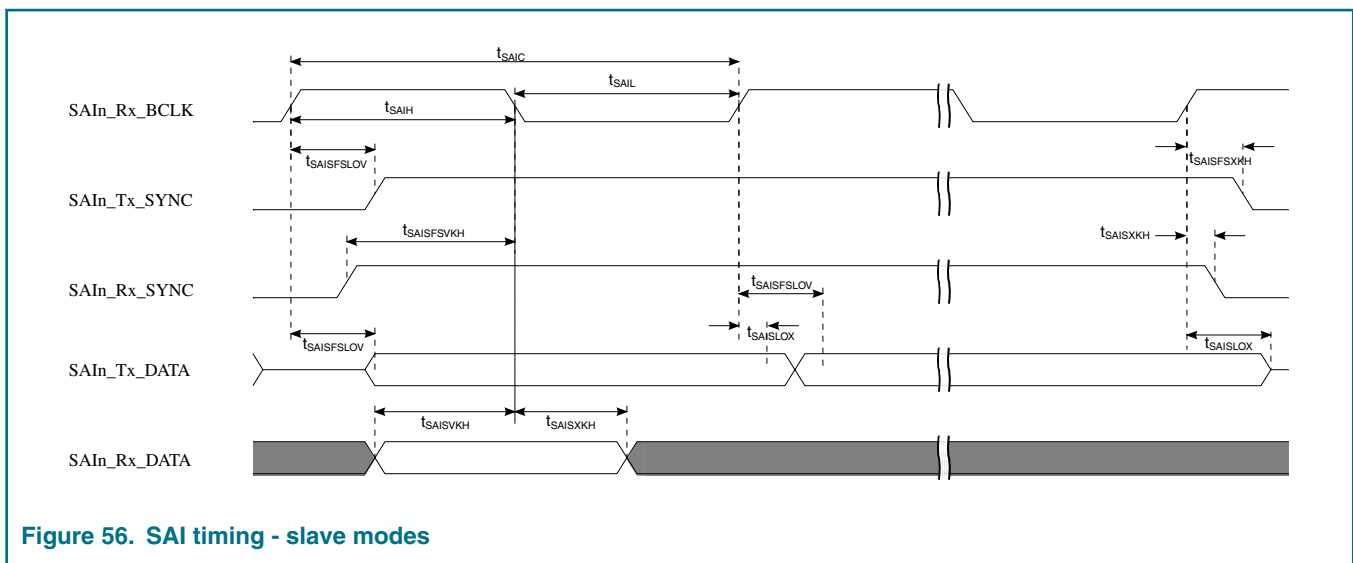

Figure 56. SAI timing - slave modes
1. See Figure 56. on page 157.